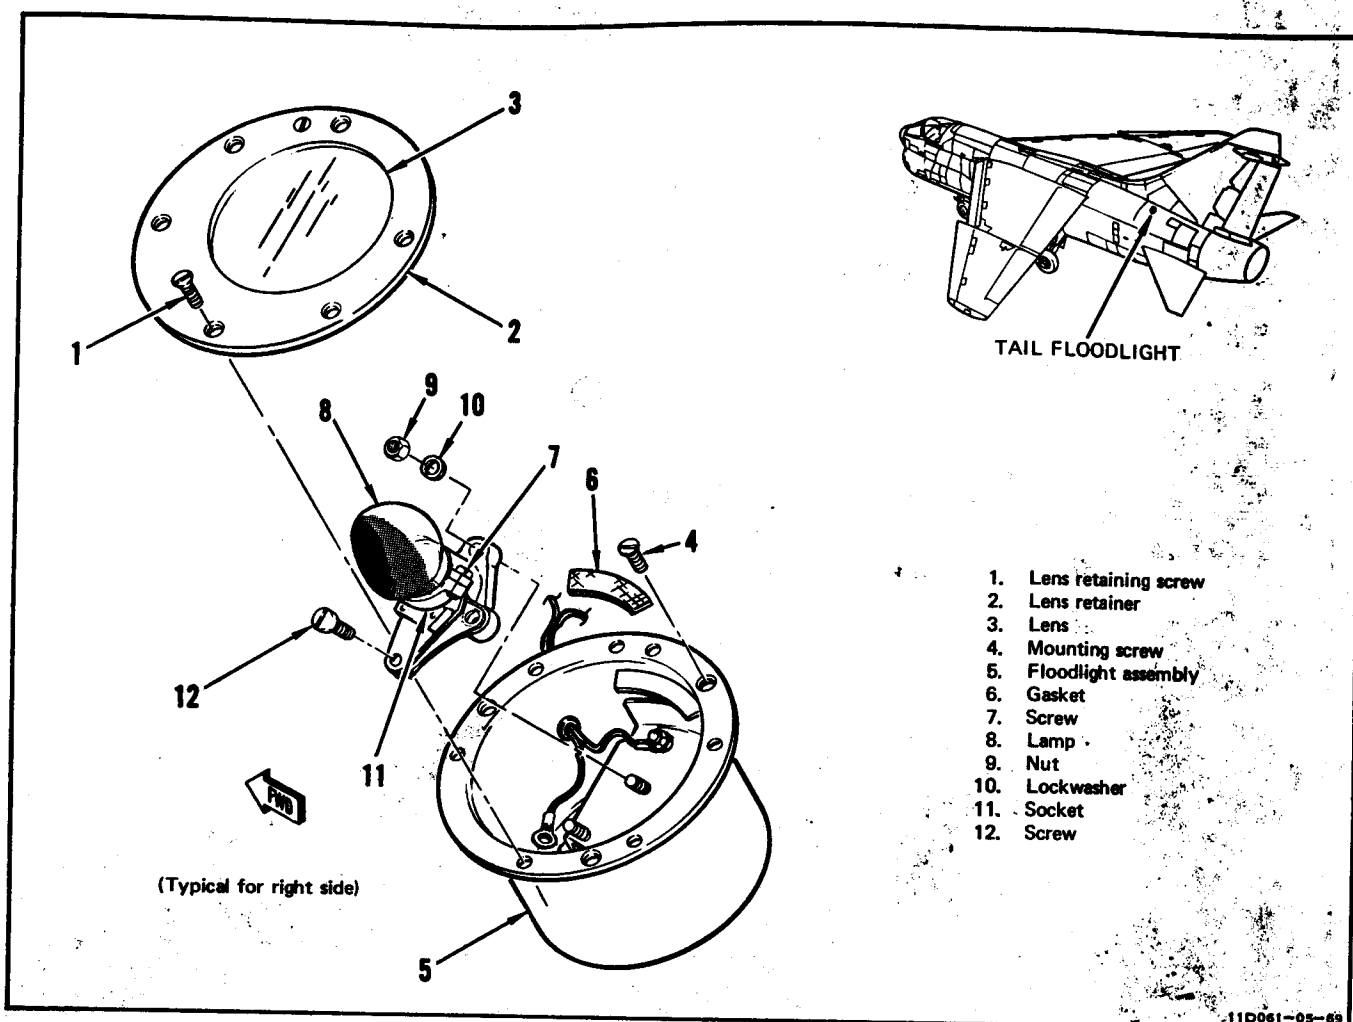

Figure 8-12. Tail Floodlight Assembly Removal and Installation
**8-66. TAIL FLOODLIGHT ASSEMBLY REMOVAL AND INSTALLATION (See Figure 8-12.)**
a. Remove all lens retaining screws (1), lens retainer (2), and lens (3).
b. Remove three mounting screws (4) and lift floodlight assembly (5) from airplane.
**8-69. TAIL FLOODLIGHT ASSEMBLY LENS REPLACEMENT.** (See figure 8-12.)
- a. Remove six lens retaining screws (1).
- b. Remove lens retainer (2) and lens (3).
c. Check condition of gasket (6) between lens and lens support, and discard and replace if damaged.
**8-70. TAIL FLOODLIGHT ASSEMBLY LAMP REPLACEMENT.** (See figure 8-12.)
- b. Loosen screws (7) and remove lamp (8).
**8-71. TAIL FLOODLIGHT ASSEMBLY SOCKET REPLACEMENT.** (See figure 8-12.)
- b. Remove nuts (9) and lockwashers (10) securing socket (11) to housing.
- c. Remove lug retaining screws (12).
- e. Install new socket, lamp, and new gasket in reverse of sequence shown in figure 8-12.
- b. Remove SG-811/APQ-126(V) sweep generator (T.O. 1A-7D-2-14-3).